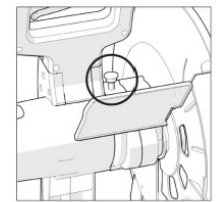

Fig. 3
- Press the spindle lock button to engage the spindle lock (Fig.3)